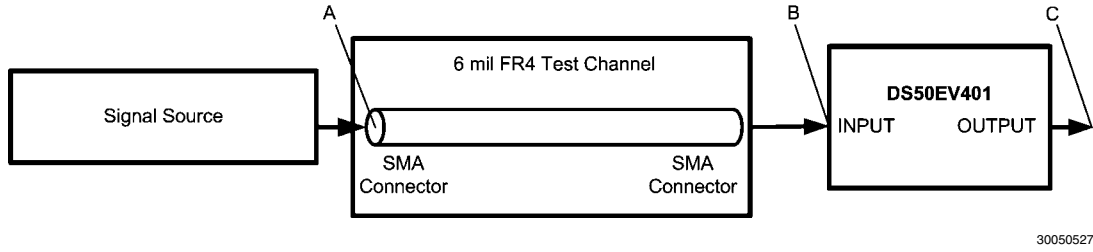

FIGURE 1. Test Setup Diagram
**Note 7:** Deterministic jitter is measured at the differential outputs (point C of Figure 1), minus the deterministic jitter before the test channel (point A of Figure 1). Random jitter is removed through the use of averaging or similar means.
**Note 9:** Random jitter contributed by the equalizer is defined as sqrt (JOUT2 – JIN2). JOUT is the random jitter at equalizer outputs in ps-rms, see point C of Figure 1; JIN is the random jitter at the input of the equalizer in ps-rms, see point B of Figure 1.